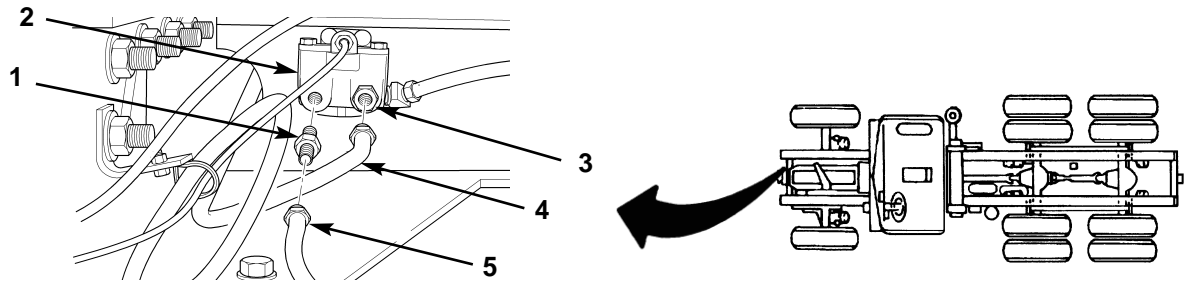

Figure 44. Disconnecting Tubing from Relay Valve.
1. Remove tube (figure 44, item 4) from right adapter (figure 44, item 3) on relay valve (figure 44, item 2), and remove tube (figure 44, item 5) and left adapter (figure 44, item 1) from relay valve (figure 44, item 2). Discard tubes (figure 44, items 4 and 5).